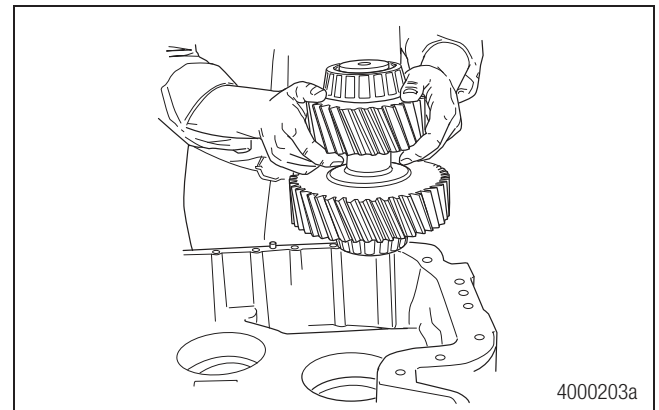

Figure 7.15
- With the inside of the front case facing UPWARD, install the single idler shaft (MTC-4213X only), or rear output shaft (MTC-4208X/XP/XL/XLEV/XLEC and MTC-4210X/XP/XL/XLEV/XLEC), and double-gear idler shaft assemblies (all models). Figure 7.15.